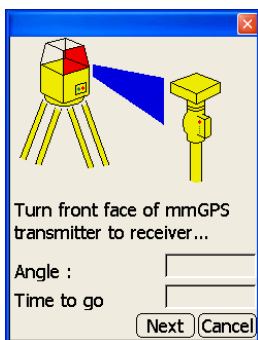

Figure 4-29. Begin Adjustment
6. If needed, adjust the height of the sensor so the angle is less than  $1^\circ$ . Once the angle is ok, tap **Next** (Figure 4-29 on page 4-32).
- Press **Next** to begin the first phase of the adjustment (Figure 4-29).